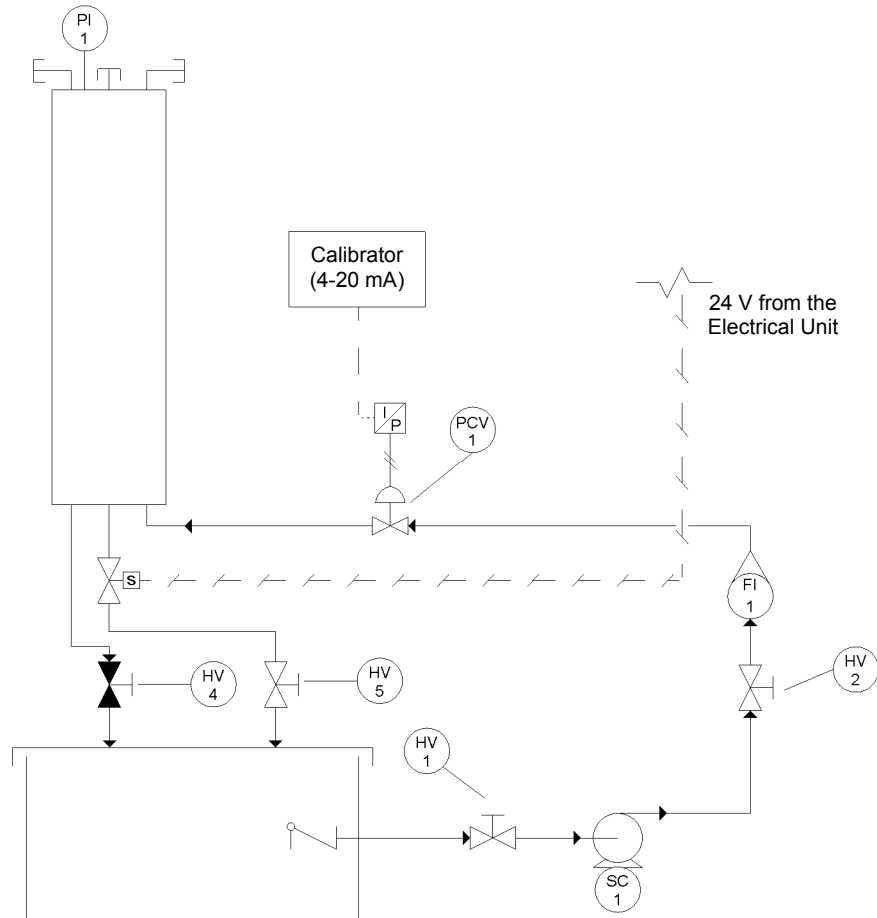

Figure 3-21. P&ID.
32. Once these modifications are made, your setup connections should be as shown in Figure 3-21